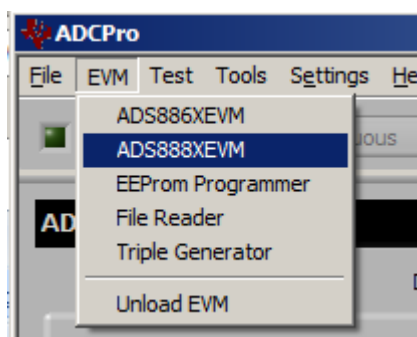

Figure 9. Loading EVM Plug-in
- Step 4. Load the ADS8881EVM plug-in from the ADCPro drop-down *EVM* menu; see Figure 9. Note that only one EVM plug-in can be loaded at a time. If a different plug-in is selected, the previous plug-in is unloaded.